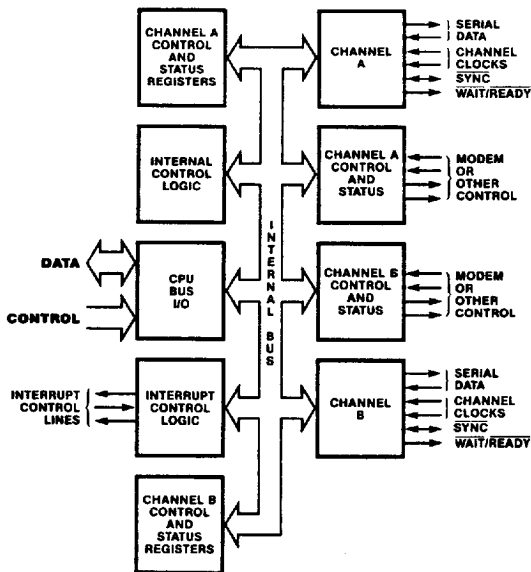

Figure 6: SIO Block Diagram
**Serial I/O Logic Unit:** This logic unit provides the user with two separate serial I/O channels that are completely compatible with the Z84C4x SIO (see Figure 6). Their basic functions as serial-to-parallel and parallel-to-serial converters can be programmed by a CPU for a broad range of serial communications applications. Each channel, desig-